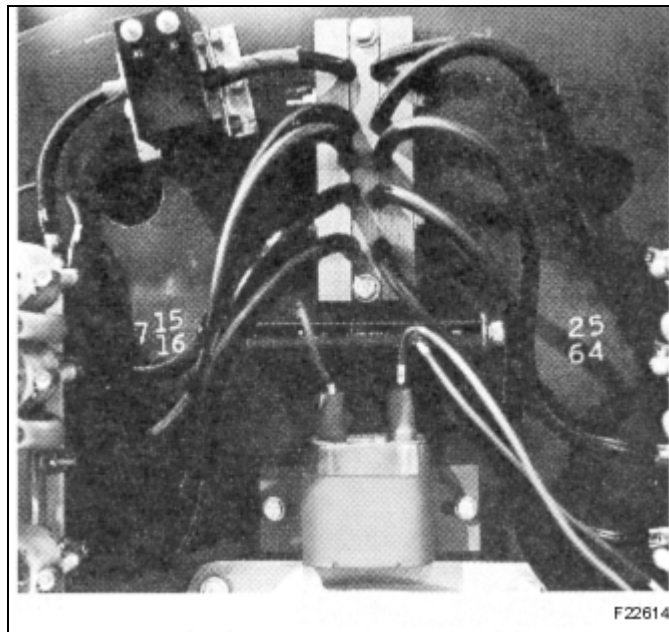
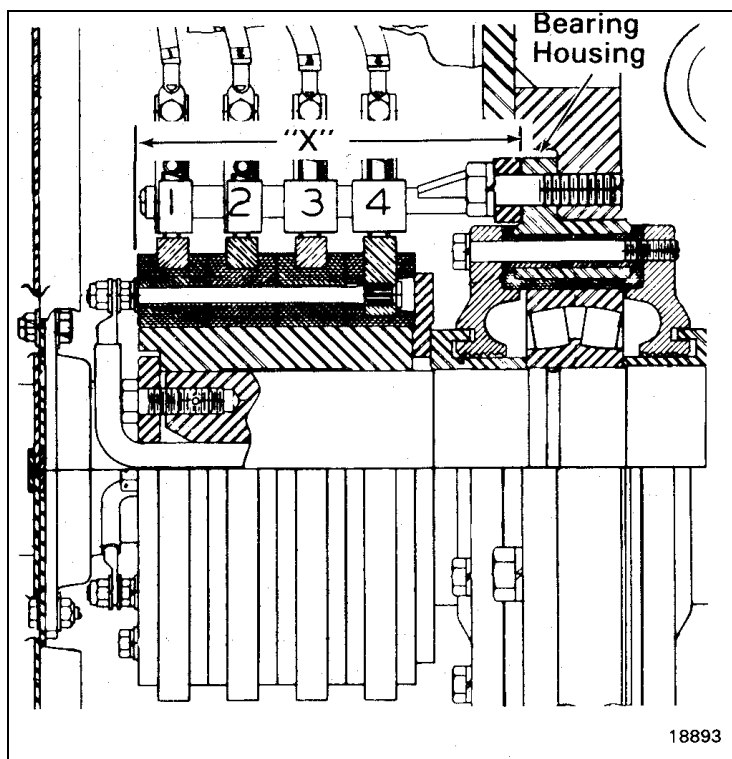
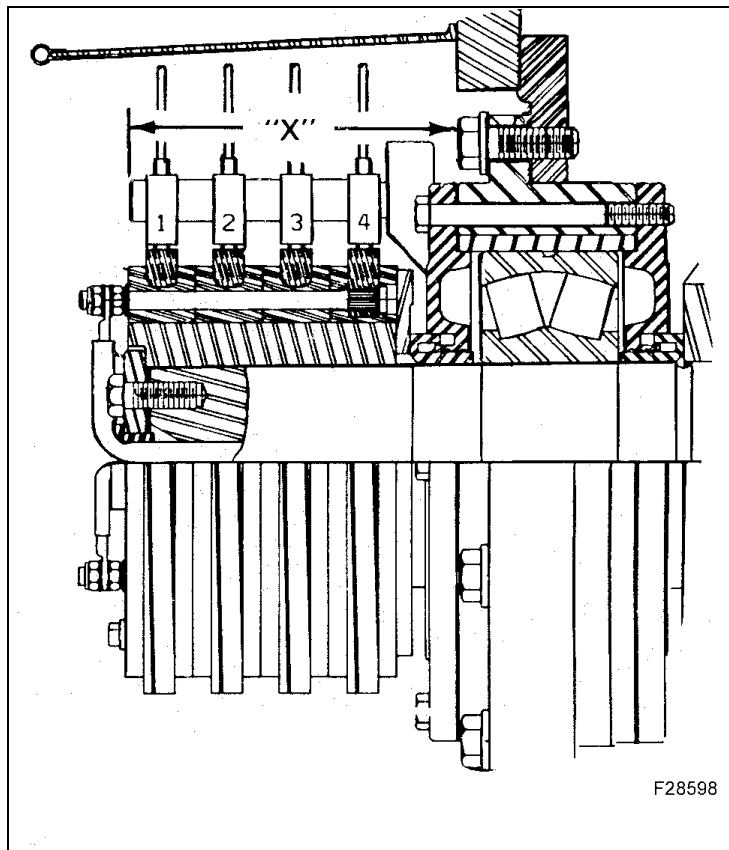

Figure 43 Stamped Dimensions on Generator End Housing
Figure 44 Model AR10 Small Bearing "X" (Protrusion) Measurement
Figure 45 Large Bearing "X" (Protrusion) Measurement
8. Center the rotor assembly in the stator and check the total end movement of the bearing outer race in the bearing housing. A few early generators had a total end movement of less than $9.5 \text{ mm} \pm 0.4 \text{ mm}$ ($3/8" \pm 1/64"$), which can be verified by the figure stamped on the generator housing. All current generators and most earlier models have a total end movement of $9.5 \text{ mm} \pm 0.4 \text{ mm}$ ($3/8" \pm 1/64"$). If the original parts are reused, this figure may be the same as the original figure, which was stamped on the face of the generator end housing. If the total end movement measurement differs from the number stamped on the generator end housing, Figure 43, remove the original number and stamp the new number adjacent to it.
10. On early model AR10 generators with the small bearing application, measure the distance from the machined surface of the bearing housing between the mounting bolts to the outer surface of the collector ring assembly, Figure 44. This measurement is the "X" (protrusion) dimension. Stamp this measurement, to the nearest 0.40 mm (1/64"), on the generator end housing, Figure 43. This dimension should be approximately 224.6 mm (8-7/8").
11. On the other model generators with the large bearing application, measure the distance from the bearing housing bolt head at the 1 o'clock position to the outer surface of the collector ring assembly, Figure 45. This measurement is the "X" (protrusion) dimension. Stamp this measurement, to the nearest 0.40 mm (1/64"), on the generator end housing, Figure 43.